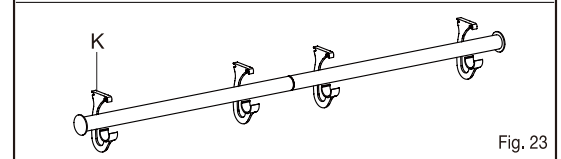

Fig. 23
- Position closet rod assembly at desired location and snap into closet rod brackets (K) (see Fig. 23 and Fig. 24).